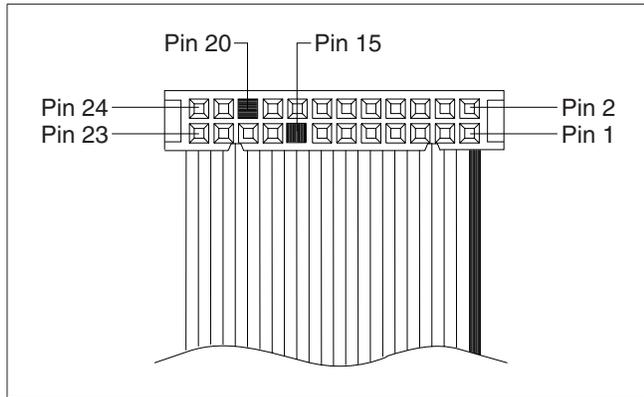

Figure 6-32. Extension Card Cable Connector
– Disconnect the extension card cable from J2 on the printer card. See Figure 6-38 on page 6-65 for the locations of the printer card connections. See Figure 6-32 for the locations of the cable connector pins.